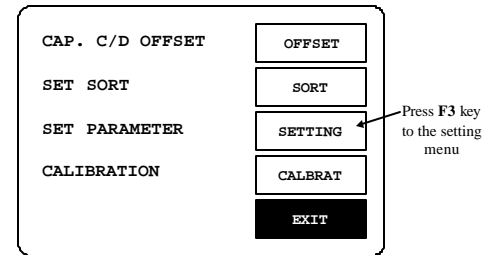

Figure 7-2
- Press **F3** key to select "SET PARAMETER" function. (Figure 7-2)